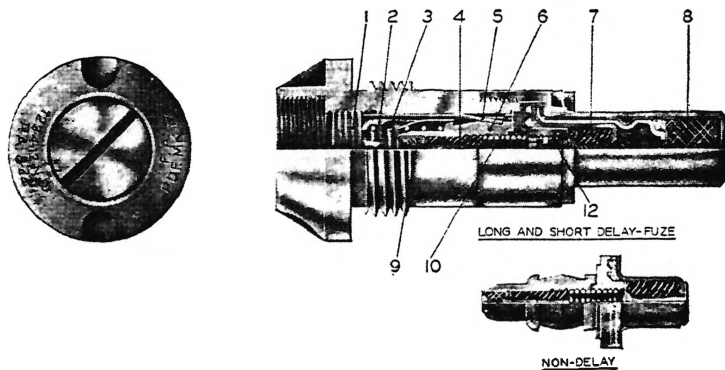

FIG. 13.—Point detonating fuze, Mk. IV and IV-star
- (2) Point detonating fuze, Mk. IV-star (fig. 13).
(1) The point detonating fuze Mk. IV-star (P. D. F. Mk. IV-star) is made primarily for use in guns of comparatively high muzzle velocity, and is used when a slight delay action is desired. It is authorized for use in the Mk. III high-explosive shell. The design was practically copied from the French (24/31, M1899-1915). Figure 13 shows this fuze, together with the names of the principal parts. This fuze weighs approximately 0.35 pound.